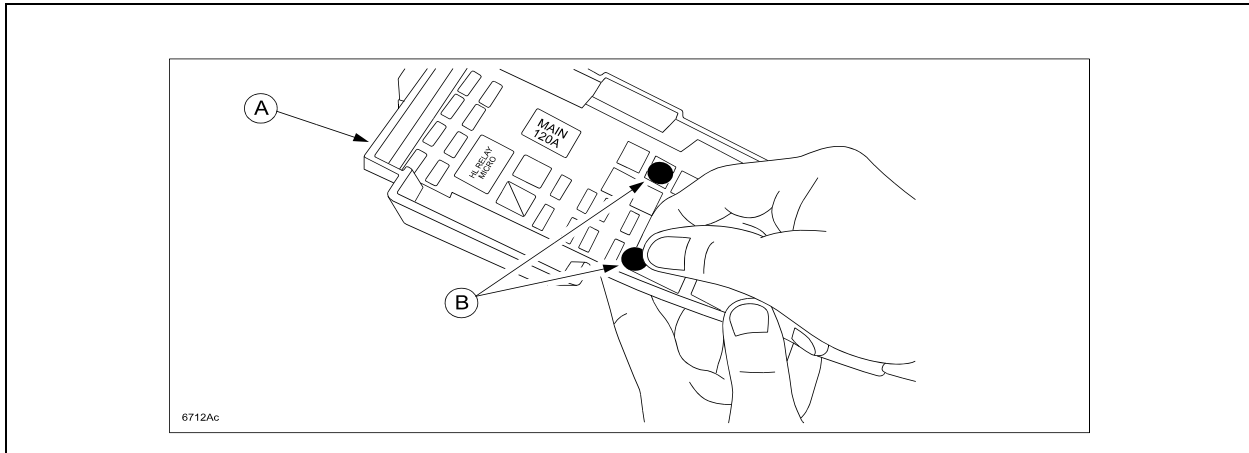

FIGURE 2
**NOTE:** The revised brake master cylinder reservoir cap package also contains two (2) black adhesive dots (B) that will be used in the next step.
1. Remove the Power Distribution Box (PDB) cover (A). Clean the PDB cover inside label. Apply the two black adhesive dots to the label over fuse location F1.14 and F1.24 (B). See Figure 2.